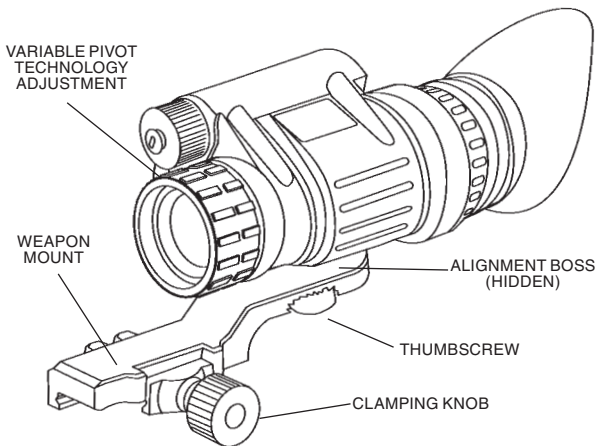

FIGURE 2.7. WEAPON MOUNT USAGE
- (1) Orient the monocular and weapon mount as shown in Figure 2.7. Be sure to align the alignment boss on the weapon mount with the alignment groove in the monocular.
- (2) Screw in the thumbscrew to secure the monocular to the weapon mount.
- (3) Loosen the clamping knob on the weapon mount. Position the weapon mount with the monocular onto the weapon's mounting rail. Tighten by turning the clamping knob.